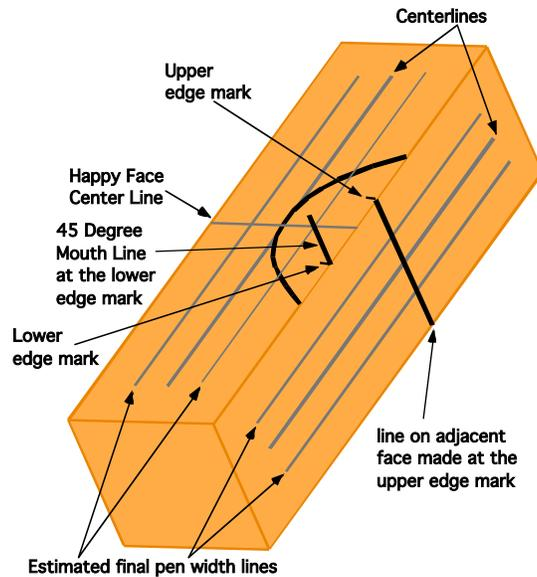

Figure 5 – Line on Adjacent Face at edge mark.
7. At the UPPER edge mark, draw a line across the ADJACENT face (that have the centerline and pen dimension lines drawn on it). Figure 5 shows this line.